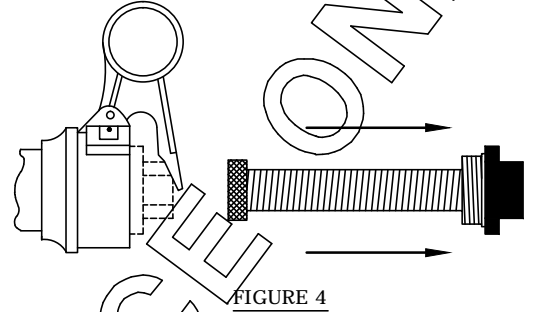

FIGURE 4
- STEP 5 UNSCREW AND WITHDRAW HOLDER CAP TO WHICH IS ATTACHED THE SPRING AND CABLE ASSEMBLY. (SEE FIG. 4)